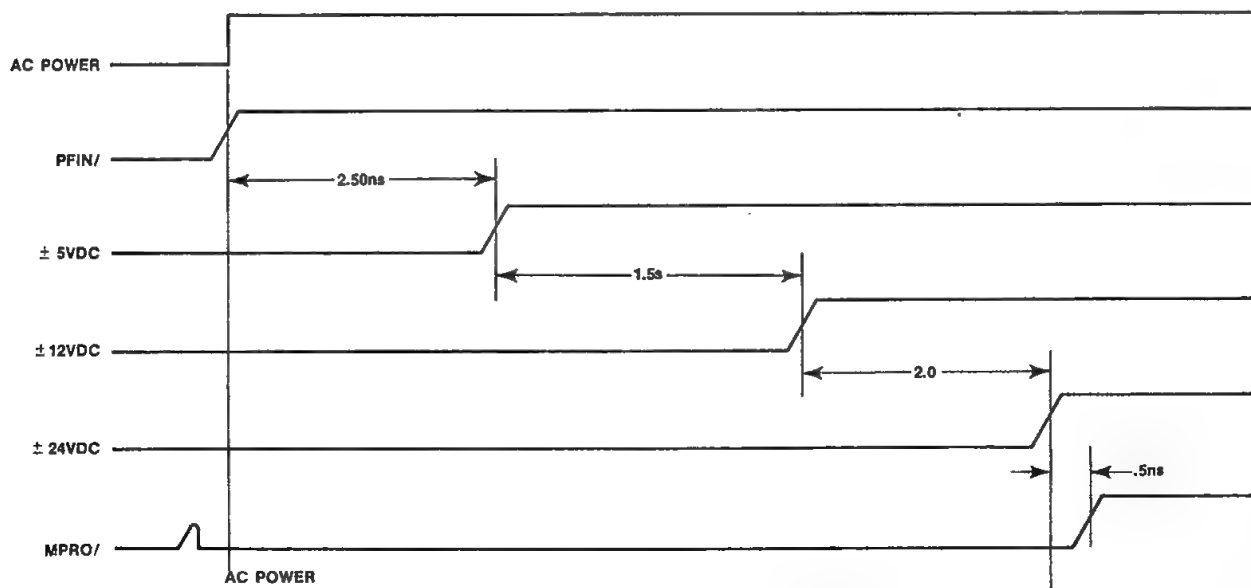

Figure 3-3. Power-On Sequence Diagram
Typically, these signals are used to activate a specific power-fail routine in a Single Board Computer, and to provide signals for resuming operation when AC power is restored, see Figures 3-3 and 3-6. In instances where the user would like to provide battery backup after power-fail, the user needs to supply a Multibus module or board which provides that capability.
- When the preset AC level is reached, the power supply begins its power-up sequence, see Figure 3-3.